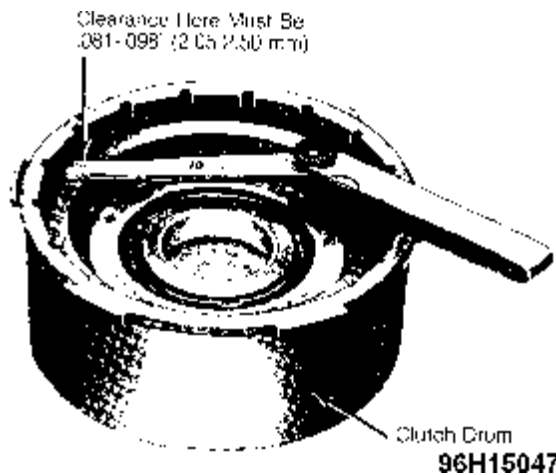

Fig. 10: Measuring Direct-Reverse Clutch Clearance
- 5) Measure clearance between pressure plate and retaining snap ring. See Fig. 10. Clearance should be .081-.098" (2.05-2.50 mm). If not, remove clutch pack snap ring and replace with snap ring of correct thickness to bring clearance within specification.